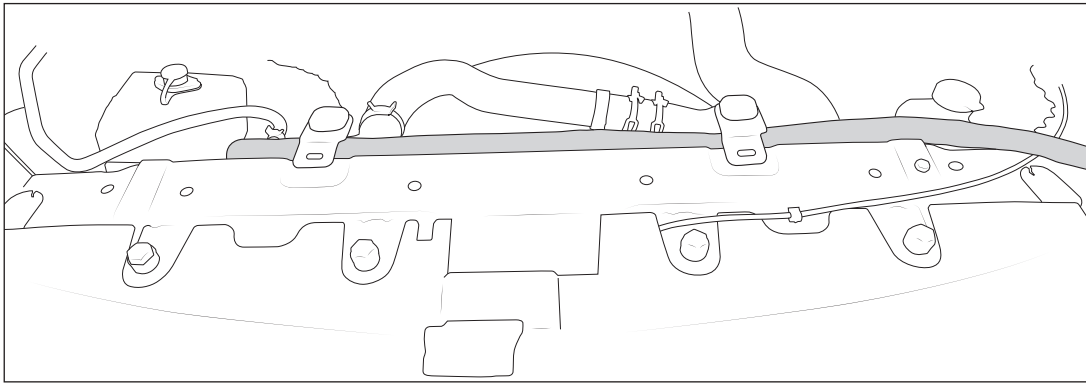

Figure 14
5. Run the positive cable across the front of the vehicle. Detach the radiator supports to run the loom underneath as shown (fig. 14) then reinstall fasteners.